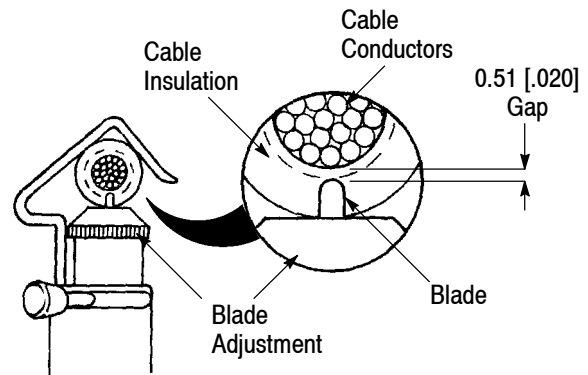

Figure 2
2. Adjust the blade as shown in Figure 2. DO NOT set the blade too deep.